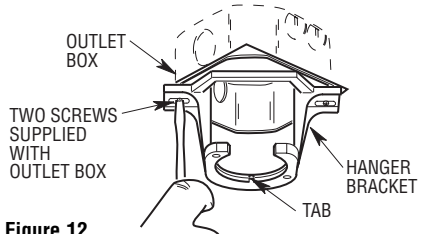
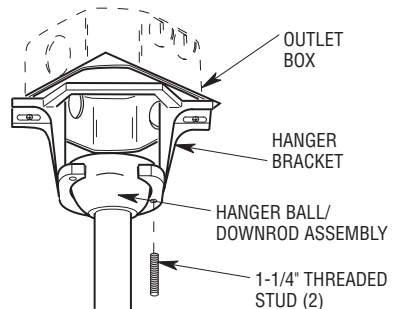

Figure 12
Figure 13
1. Securely attach the hanger bracket to the outlet box using the two screws supplied with the outlet box (Figure 12).
2. Carefully lift the fan and seat the hanger ball/downrod assembly on the hanger bracket that was just attached to the outlet box (Figure 12). Be sure the groove in the ball is lined up with the tab on the hanger bracket (Figure 13).
- 3. Screw the two 1-1/4" threaded studs (supplied) into the tapped holes in the hanger bracket (Figure 13).